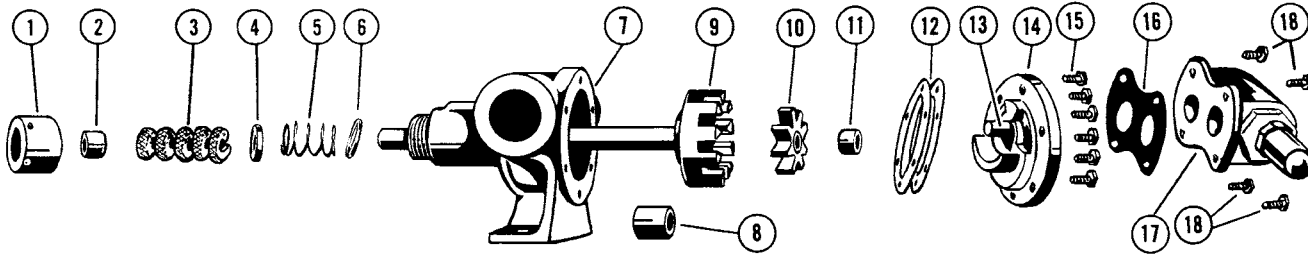

FIGURE 5 - EXPLODED VIEW MODEL G32 PUMP
1. Refer to figures 5 through 12 for name of parts.